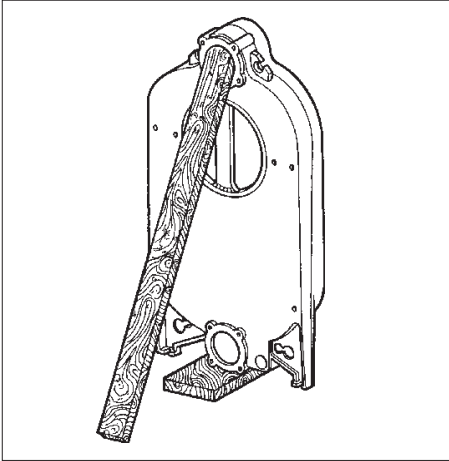

Fig. 5
4.01 (Fig. 5) Use a 12 mm strip of wood to shim the rear element. Now rest it on a second strip, checking that it remains stable throughout the assembly operations.